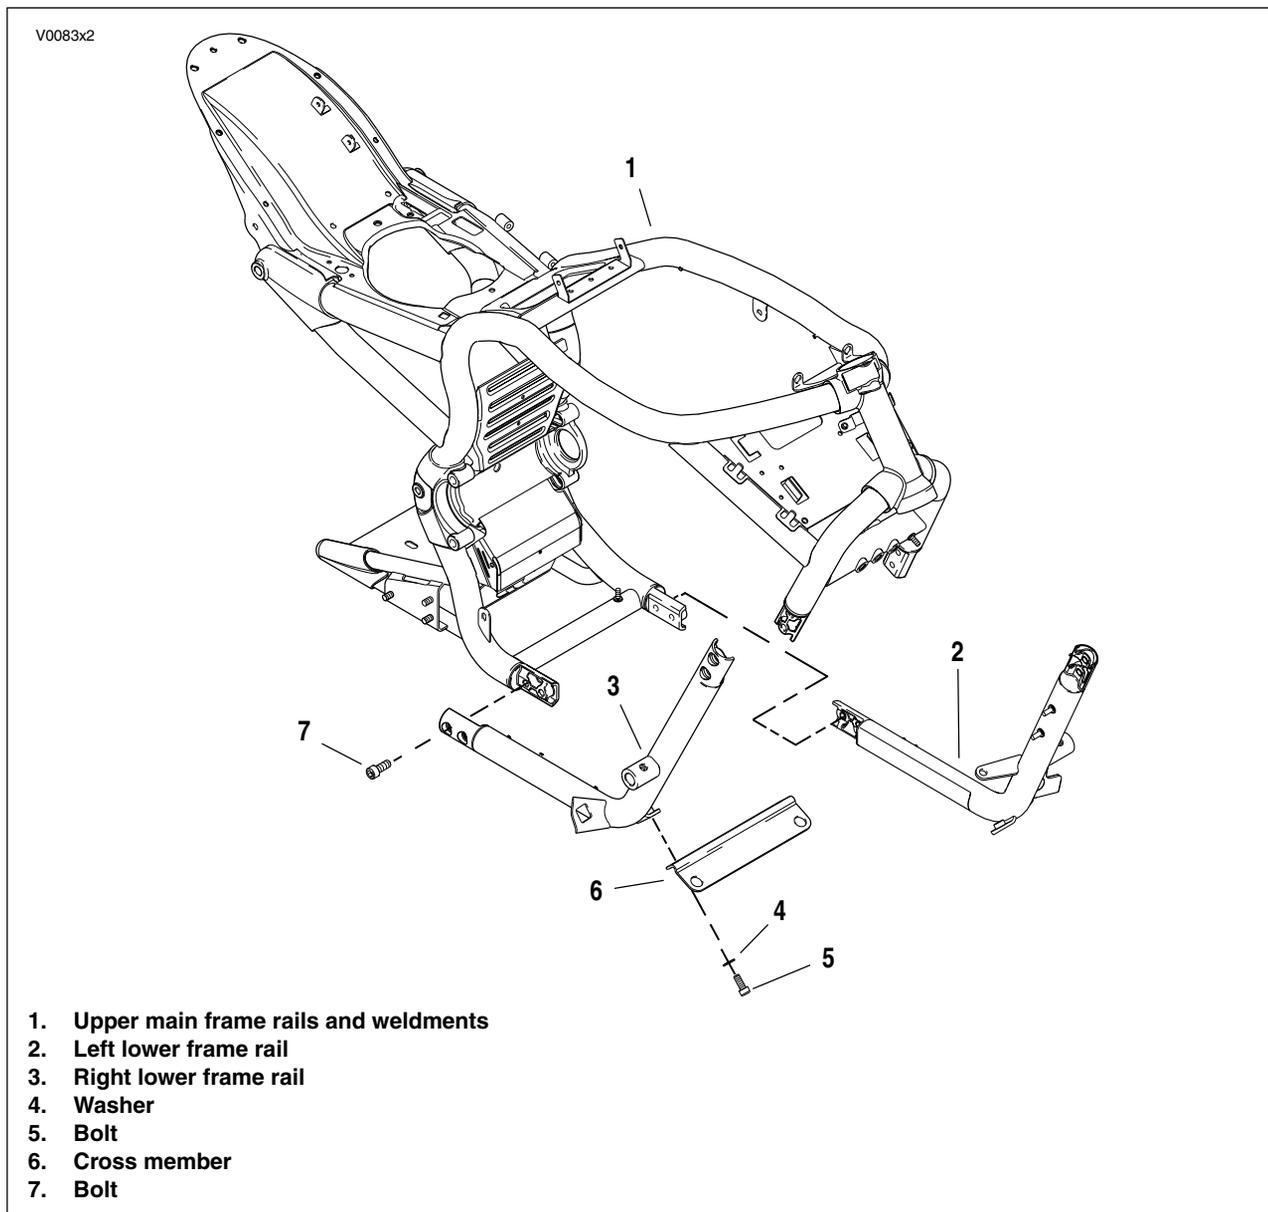

Figure 2-3. Steel Perimeter Frame and Bolt-on Lower Frame Rails
6. See Figure 2-3. Remove two cross member bolts (5) and washers (4). Pull bottom of radiator assembly forward with cross member or remove the radiator assembly as required. See 6.8 RADIATOR/OIL COOLER.
1. See Figure 2-3. Install left and right lower frame rails (2 & 3) and finger tighten mounting bolts (7).
8. Reinstall radiator/oil cooler assembly as required or pull radiator/oil cooler assembly into position and install and finger tighten cross member mounting bolts (5) and washers (4). Tighten cross member bolts (5) to 20-26 Nm (15-19 ft-lbs). See 6.8 RADIATOR/OIL COOLER.
9. Tighten lower frame rail bolts (7) to 61-75 Nm (45-55 ft-lbs).